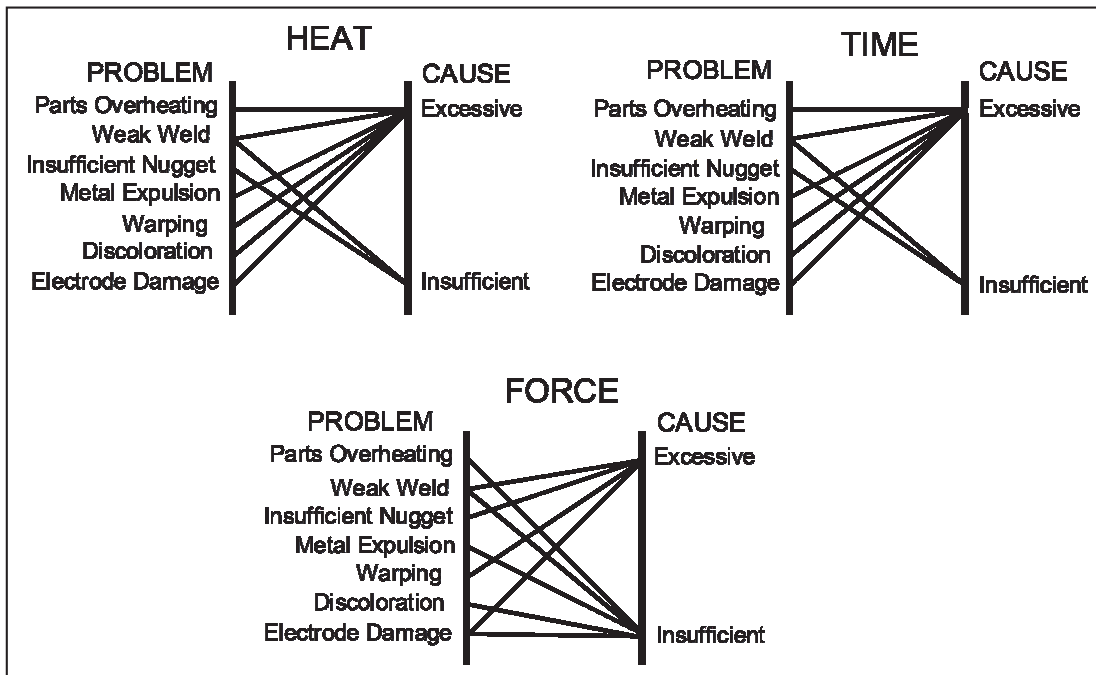

Figure 5-1. Effects of Excessive or Insufficient Heat, Time and Pressure
The effects of excessive or insufficient heat, time and pressure on a weld are illustrated in figure 5-1. You should consider the interaction between these basic welding parameters when developing a weld schedule.
- 2 Set the force adjustment knob on the weld head to set the firing force. Start at a moderate force setting, 3 on a Miyachi Unitek Weld Head. Figure 5-1 illustrates the effect of electrode force on the work piece.
Electrode sticking includes burning, sparking, and "blown welds." These problems indicate that either the %ENERGY is too high or the electrode force is too low. Refer to figure 5-1.